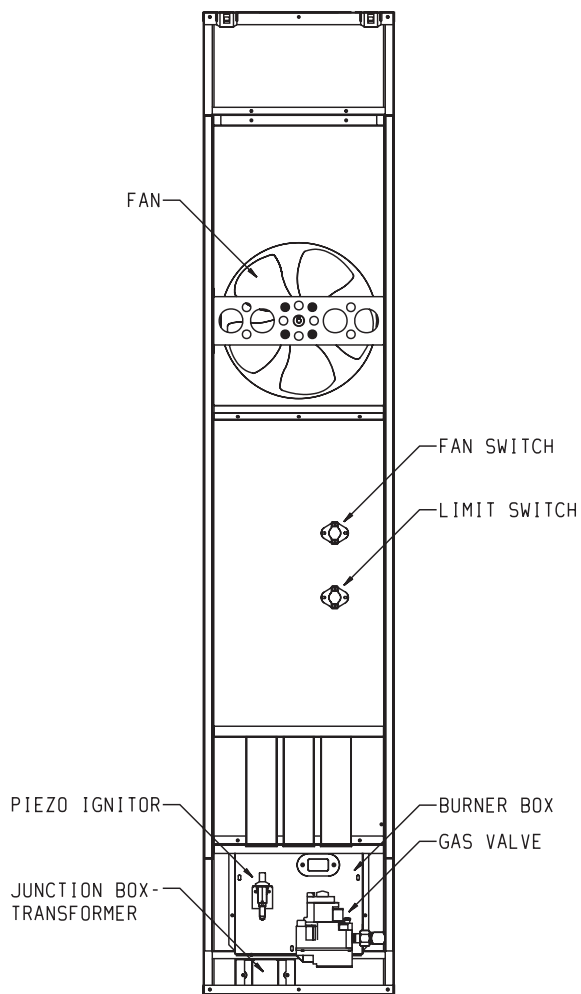

Figure 15
3. To check for line voltage to furnace, remove front panel and short across two-terminal fan control to allow fan to operate. (Figure 15)